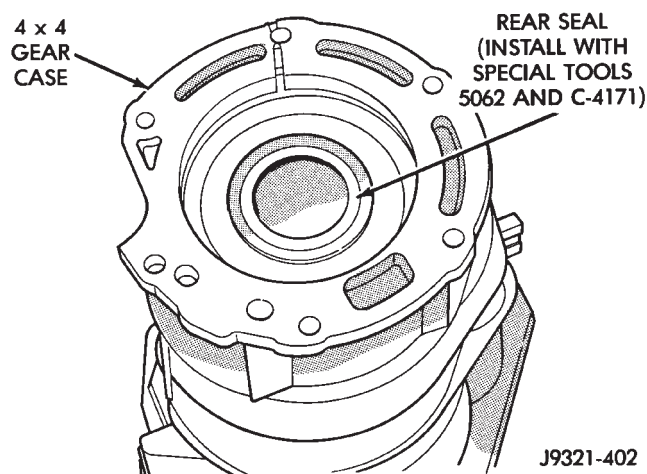

Fig. 58 Rear Seal Installation (In 4 x 4 Gear Case)
(5) Install new seal in gear case (Fig. 58). On 4 x 4 gear case, use Tool Handle C-4171 and Installer 5062